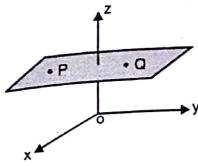

Fig. 6.1.1 :  $Z = \text{constant}$  plane
- Consider a plane perpendicular to the z-axis as shown in Fig. 6.1.1. As, z-axis is vertical, a plane normal to z is horizontal, also xy plane is horizontal. Therefore xy plane and plane under consideration are parallel.